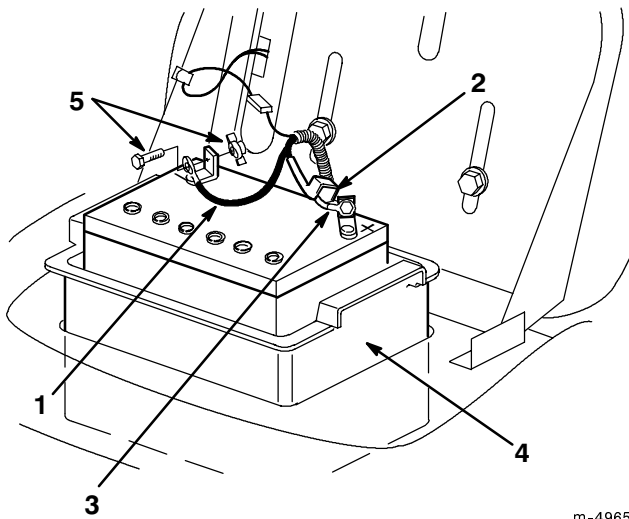

Figure 19
3. Disconnect the negative (black) ground cable from the battery post (Fig. 19).
4. Slide the rubber cover up the positive (red) cable. Disconnect the positive (red) cable from the battery post (Fig. 19).
5. Remove the battery box and battery from the chassis (Fig. 19).
- Put the battery into the battery box and install into the chassis (Fig. 19).
- Using the bolt and wing nut, connect the positive (red) cable to the positive (+) battery post (Fig. 19). Slide the rubber cover over the battery post.
- Using the bolt and wing nut, connect the negative (black) cable to the negative (-) battery post (Fig. 19).